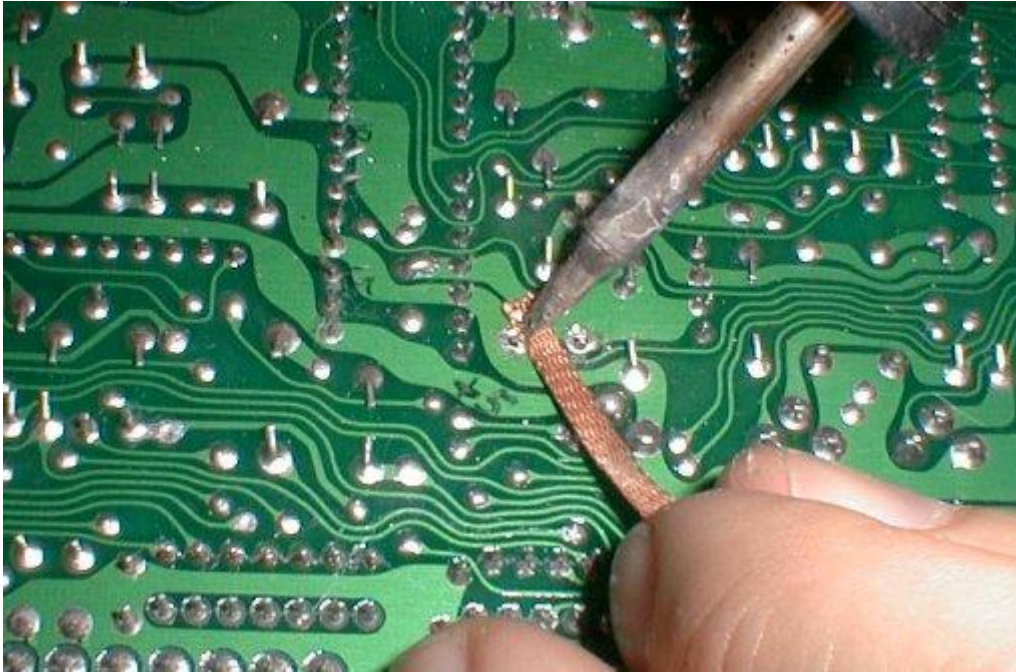

Figure 5
9. **Clean the Pads.** The hand-held manual solder sucker rarely gets all of the solder. Most of the time, you have to clean up after it. **Figure 5** shows copper solder braid being used to sop up all of the residual solder to ensure a clean pull of the capacitor.